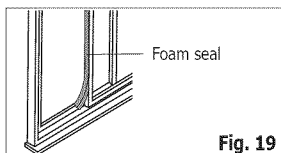

Fig. 19
6. Cut the foam seal to an appropriate length and seal the open gap between the sliding sash and outer window sash, as shown in Fig.19.